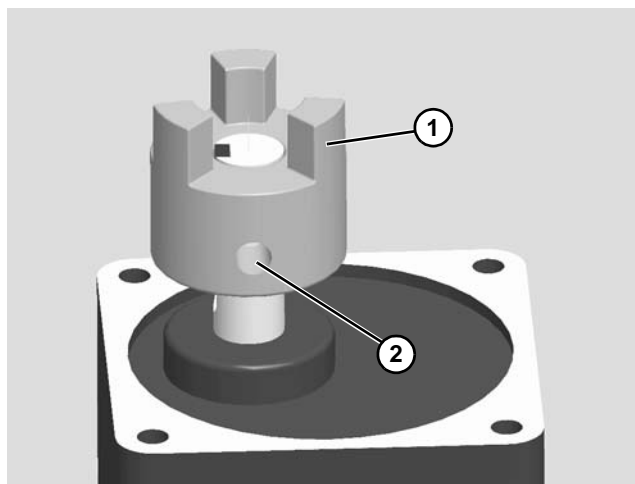

Figure 34
13. Install new 3 jaw coupling (**Figure 34, item 1**) on to the gearmotor shaft so that the shaft is even with the coupling. Tighten set screw (**Figure 34, item 2**) to 15 in-lb (1.7 Nm).